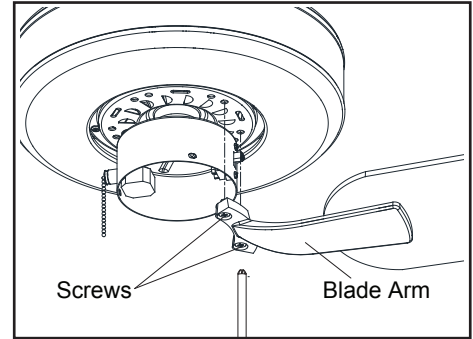

Figure 11
3. Fasten the blade assembly to the motor by aligning the screw holes on the bottom of the fan motor with the holes on the blade arm, and tightening the motor screws. Please note that the motor screws are preattached into the blade brackets. (Figure 11)